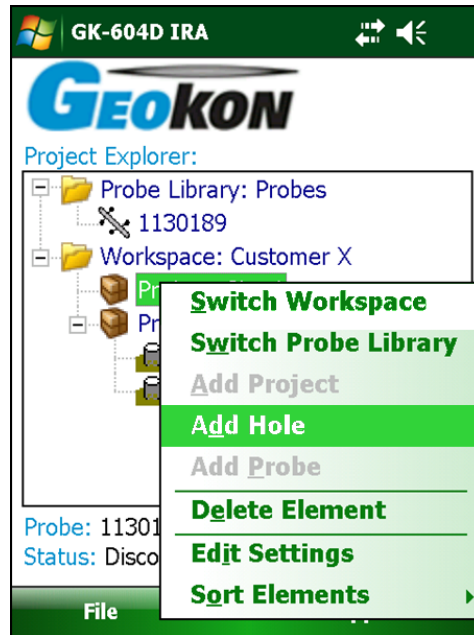

Figure 13 - Context Menu
- a) Using the Context Menu, after highlighting the Project element, select the “Add Hole” menu item (Figure 13) to create a new configuration.